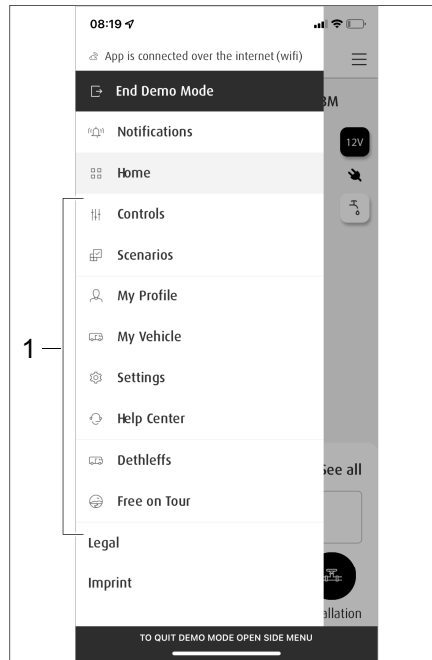
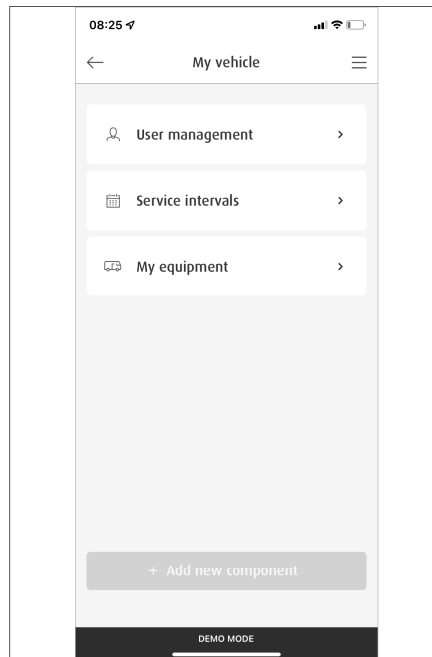

Fig. 290 Submenus
Fig. 295 My Vehicle submenu
- Click on the symbol ☰ in the menu section. The submenus (Fig. 290,1) will be displayed.
- Click on *Scenarios* (Fig. 290,1) in the menu section.
- In the submenu (Fig. 290,1), select the *Operation* menu.
- In the submenu (Fig. 290,1) select the *My Vehicle* menu. Guest accesses can be setup, service appointments booked and vehicle equipment entered in the *My Vehicle* submenu (Fig. 295).